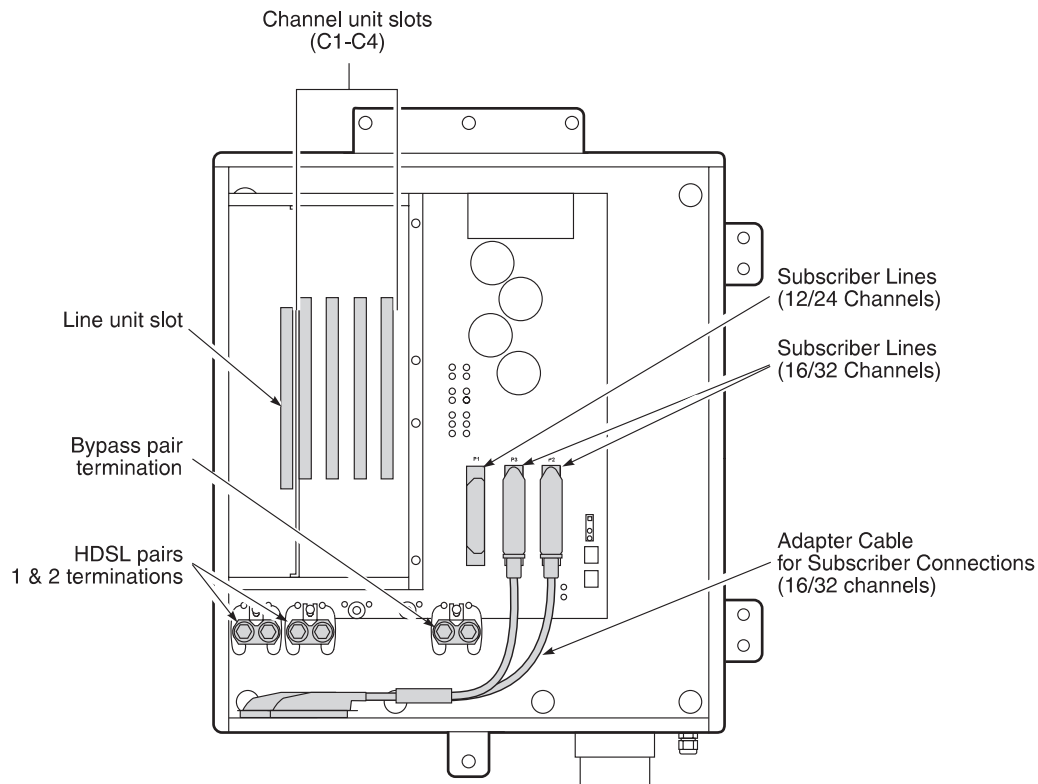
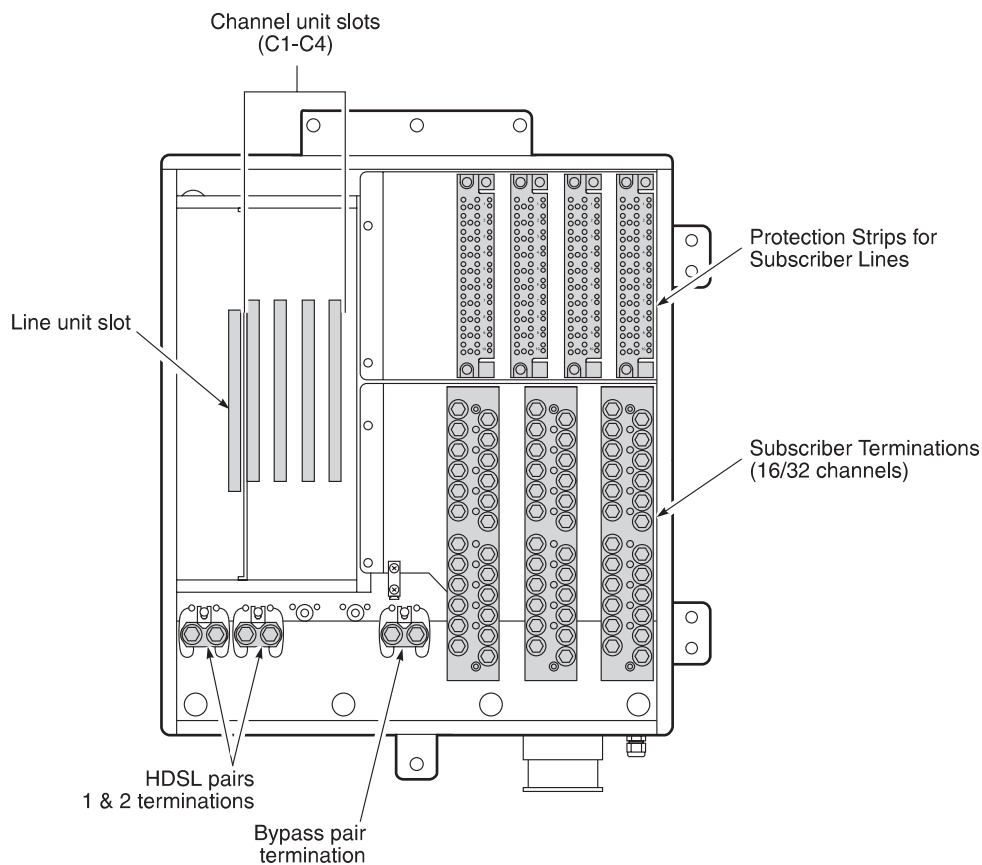

Figure 1. FRE-765 List 5 RT Enclosure (Inside View)
Figure 2. FRE-765 List 5A RT Enclosure (Inside View)
- 1.1** The PairGain® PG-Flex™ FRE-765 List 5x Remote Terminal (RT) Enclosures (Figures 1 and 2) provide convenient mounting of one Line Unit and up to four Channel Units, supporting up to 32 channels. The enclosures also provide termination points for subscriber circuits, auxiliary power pairs, and metallic bypass pair. AMP Quiet Front™ terminations, with internal gas tube protectors, are provided on the backplane for HDSL and Bypass connections. Optionally, you can add AMP Quiet Front terminations for auxiliary power pairs when PG-Flex is used with a PG-Flex doubler. The enclosure can be pole or wall-mounted and is environmentally sealed for outside plant installations.
List 5 (Figure 1)	List 5A (Figure 2)